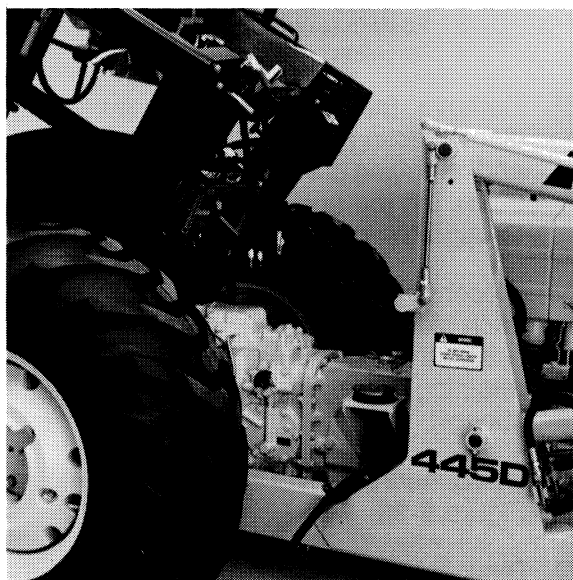

FIGURE 9-40
28. As shown in Figure 9-40; the rear axle top cover and transmission can be worked on and/or removed from this position, appropriately supporting the subframes and the rear axle.